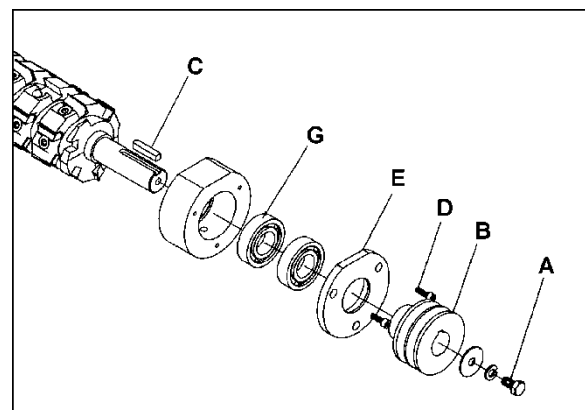

Figure 27
7. Loosen lock screw (A, Figure 27) and remove pulley (B, Figure 27) and key (C, Figure 27).
8. Take down screws (D, Figure 27) on both sides and remove bearing cap plates (E, Figure 27).
**IMPORTANT:** If the bearings (G, Figure 27) need replacement, Powermatic strongly recommends this be done by qualified service personnel. The bearings are press fitted and must be removed with an arbor press.